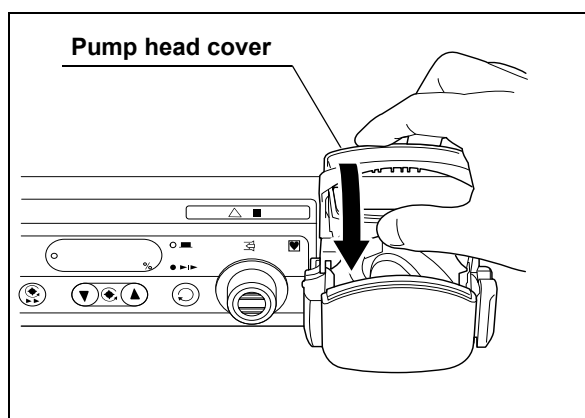

Figure 7.11
10. Close the pump head cover (see Figure 7.11).